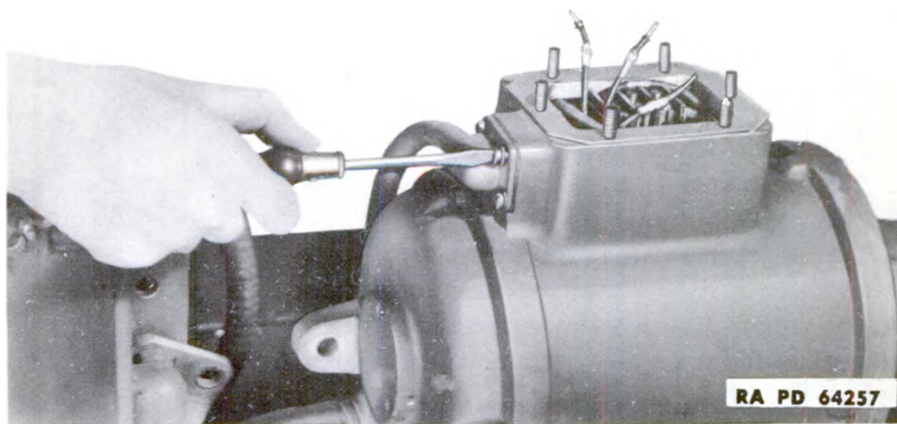

Figure 193 – Removing Conduit From Terminal Well
(4) Remove the four screws securing the cable adapter to the motor housing and withdraw the conduit from the terminal well (fig. 193).